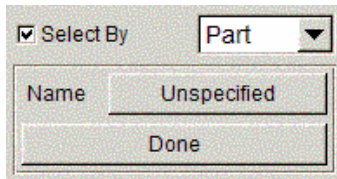

Figure 4.3.4 Select by Part
- If SELECT BY is toggled ON, there are three ways to select an element. The user may select by part, type, or range. See Figures 4.3.4 ~ 4.3.6. Click the drop down choice next to the SELECT BY button to choose one of the options.
See Section 4.2 to choose a part. All elements in the part will be selected when this option is selected. See Figure 4.3.4.